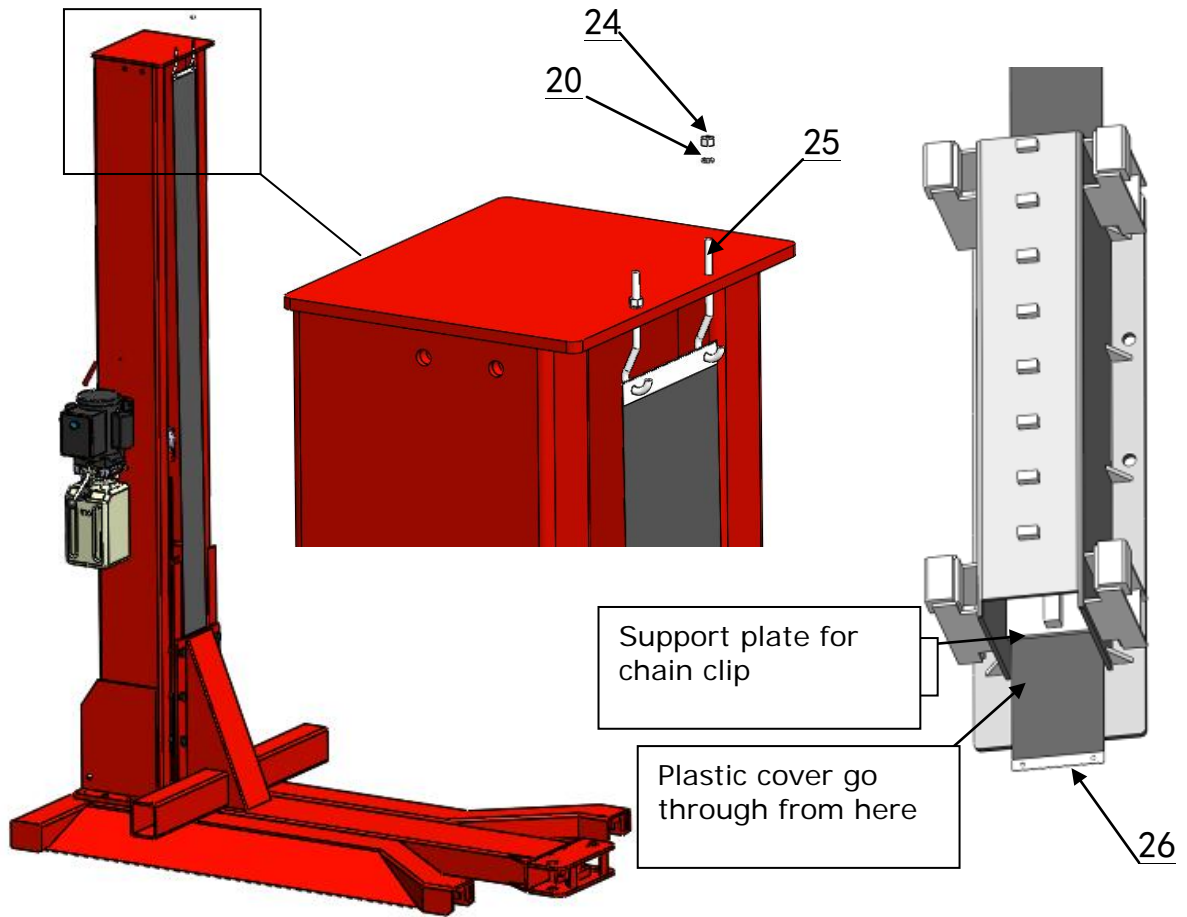

Fig.15
G. Install plastic cover(See Fig.15)